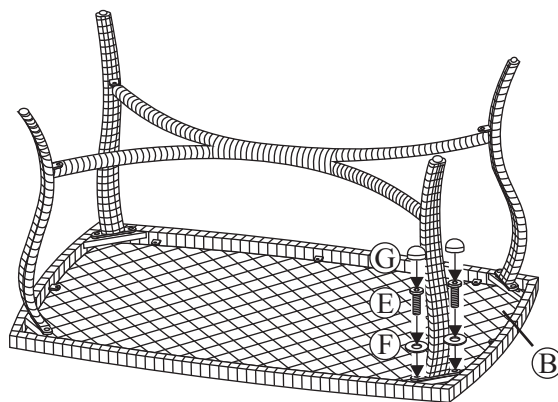

Figure 2
Step 3: Place the table rim upside down on a flat, non-abrasive surface. Attach a table leg to the table rim by using two bolts and washers as shown in *Figure 2*. Guide the bolts through the holes in the table leg into the pre-drilled holes in the table rim. **Hand tighten only 2-3 turns.** Repeat for the other legs.